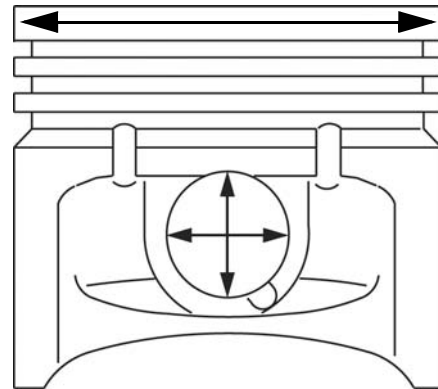

Fig. 35
6. Check piston pin bore (Figure 35) using dial caliper (#19199). Replace piston if bore is more than .501 in. (12.72mm).